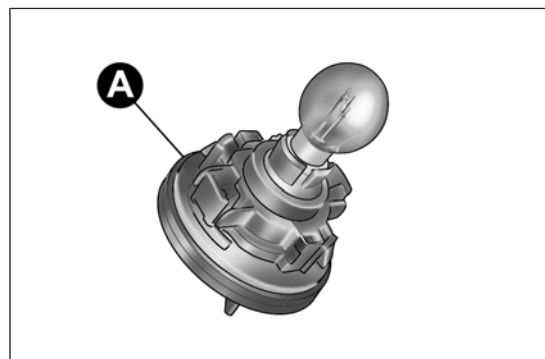

fig. 143
- replace the bulb + bulb holder assembly A fig. 143.